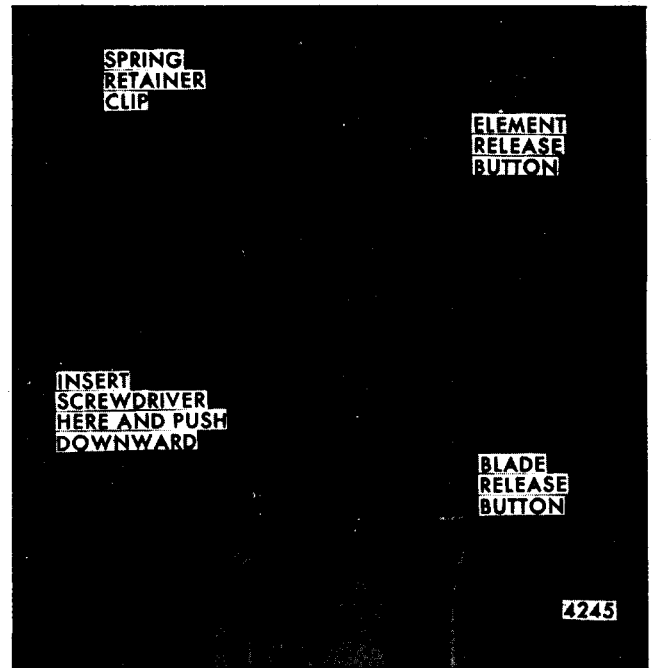

Fig. 2-31-Wiper Blade Assemblies
Two methods are used to retain wiper blades to wiper arms (Fig. 2-31).
2. The other method uses a coil spring retainer. A screw driver must be inserted on top of the spring and the spring pushed downward (Fig. 2-31). The blade assembly can then be slid off the wiper arm pin.
Two methods are also used to retain the blade element in the blade assembly (Fig. 2-31).